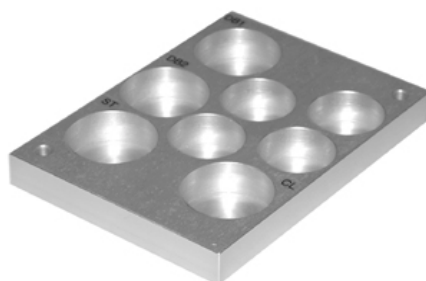

Fig 2 - Universal Common rack
- Universal Common rack (Fig. 2)